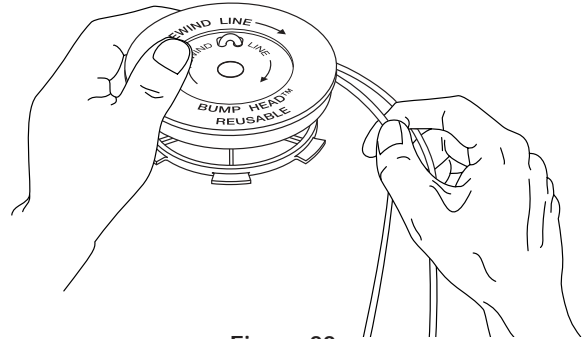

Figure 22
- Wind the lines in tight even layers onto the reel. See Figure 22. Wind the line in the direction indicated on the inner reel. Place your index finger between the two lines to stop the lines from overlapping. Do not overlap the ends of the line. Proceed to step 11.